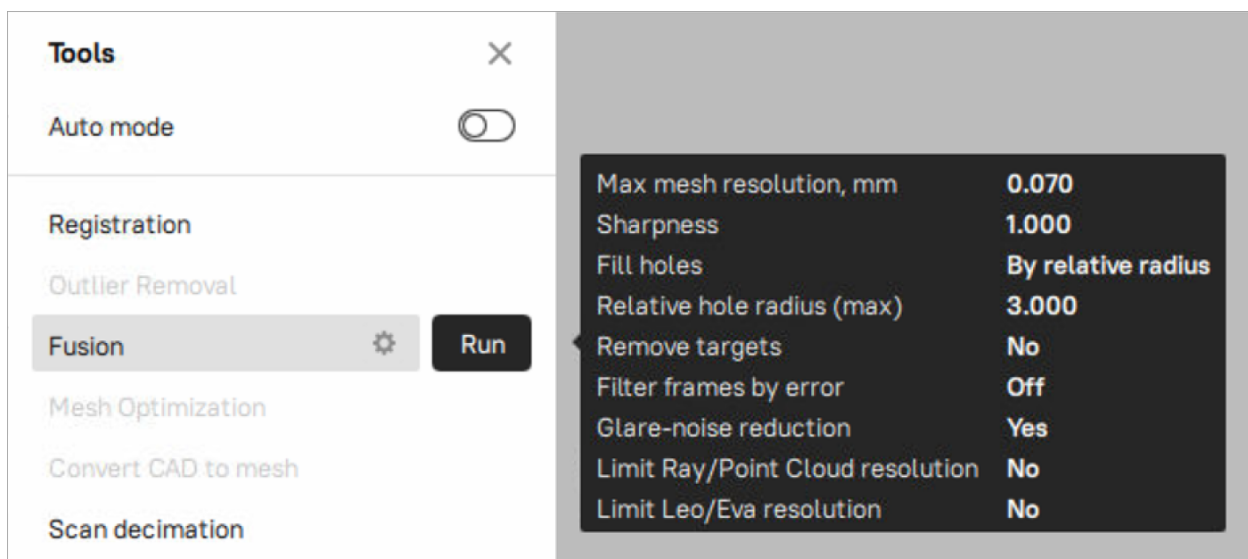

Figure 127: The *Fusion* pop-up with the default parameters.
4. Hover the mouse cursor over the *Fusion* label in order to activate the controls of the tool and the pop-up with the default parameters (see Figure 127).